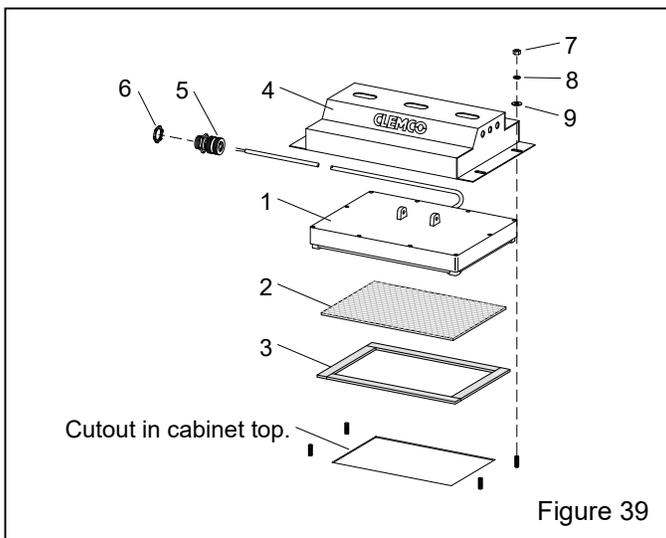

Figure 39
9.6 LED Light Assembly – Figure 39